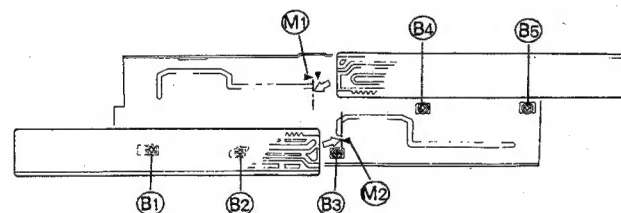
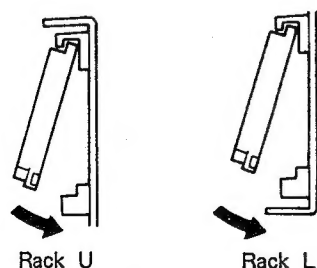

Fig. 3-2
Fig. 3-3
2. As shown in Fig. 3-2, attach the racks U·L so that the tips are at the tip positions (M1) and (M2) of each ▶ mark stuck on the chassis. Insert the upper portion of the rack first and attach it as arrow shown in Fig. 3-3.